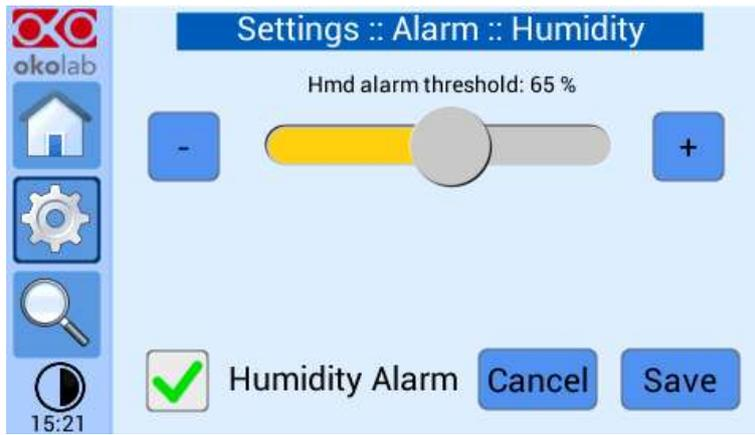

Figure 18. HM-VF Humidity Alarm Settings Page.
1. For Enclosures with the CO2-H-IN-CHAMBER-Sensor and HM-VF module: For enclosures where the gas is humidified through the HM-VF Module, navigating to the Alarms settings you can set the Threshold value to the Humidity read by the CO2-H-IN-CHAMBER-Sensor, if the read value falls below this Threshold value the system will go into an Alarm state (Figure 18).